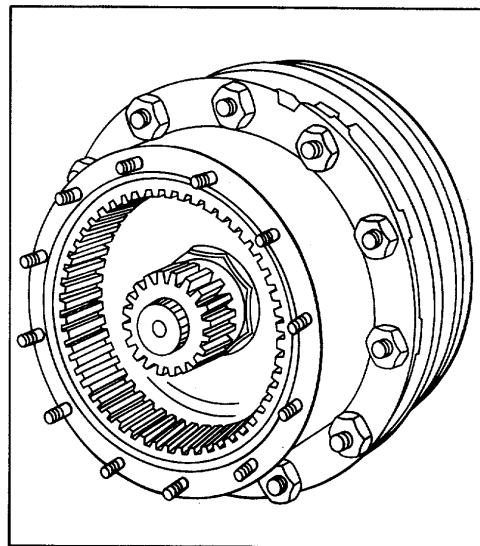

Figure 8.
1. Remove the lockring from end of axle shaft (refer to Fig. 8).